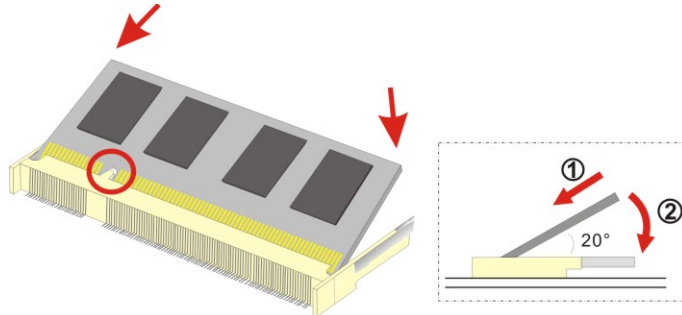

Figure 4-1: SO-DIMM Installation
To install a SO-DIMM, please follow the steps below and refer to **Figure 4-1**.
- Step 3:** Insert the SO-DIMM. Push the memory in at a 20° angle. (See **Figure 4-1**)
- Step 4:** Seat the SO-DIMM. Gently push downwards and the arms clip into place. (See **Figure 4-1**)